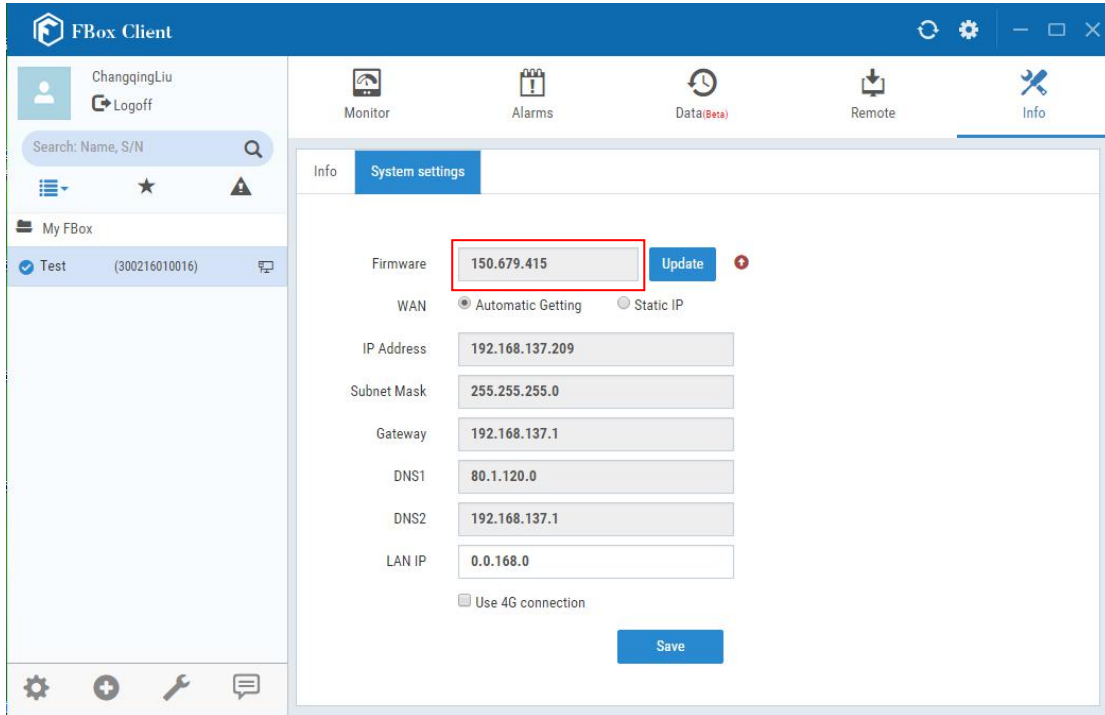

Fig. 4.5-7 View the firmware version
(1) Click the "Info" function button in the FBoxClient software and select the "System settings" subtab. Then you can view the firmware version here, as shown in Fig. 4.5-7.